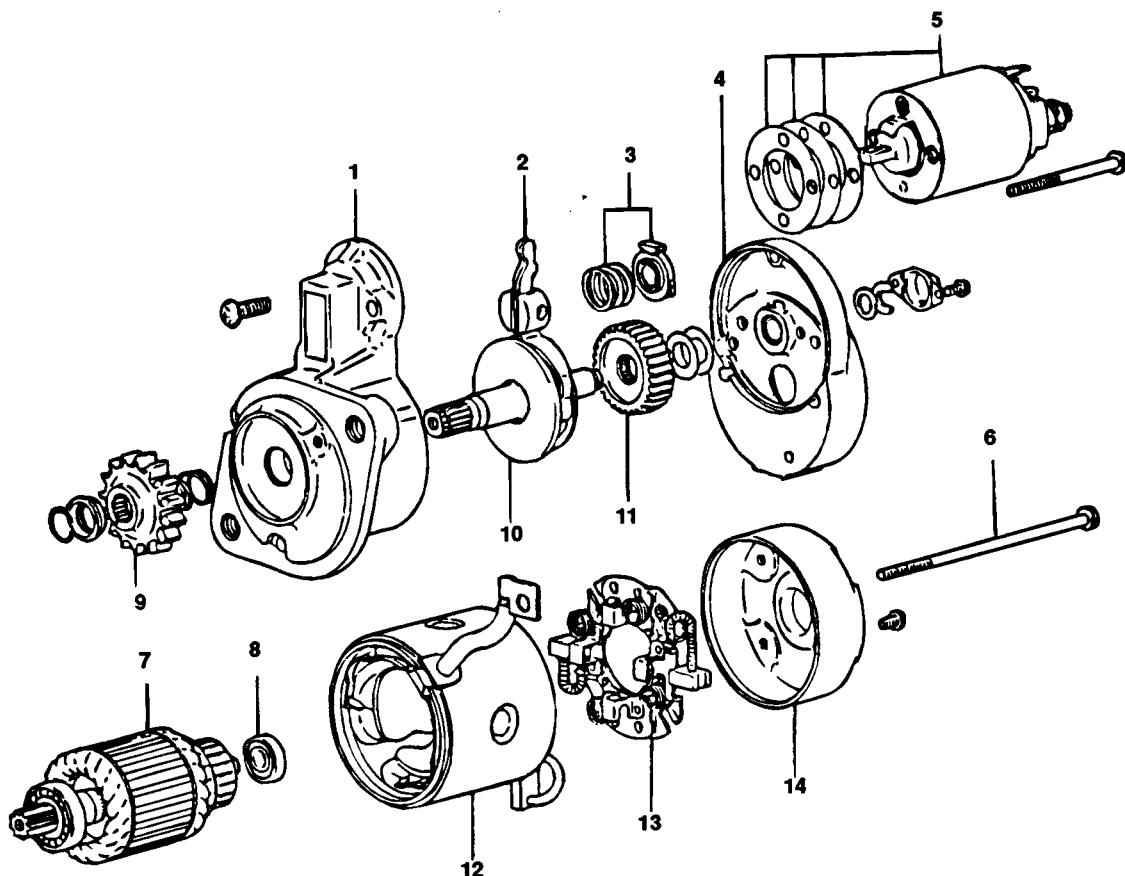

Figure 44
3. Loose two screws securing the magnetic switch (Fig. 44). Remove the magnetic switch.